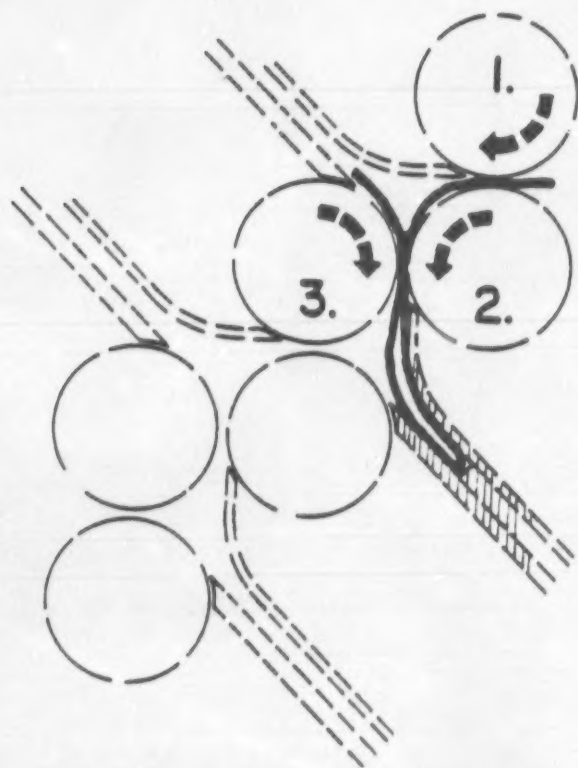

Figure 9-5. Step 3: The folded sheet is carried into fold plate number 2.
c. *Step 3.* If according to imposition requirements a second fold is to be made, using fold plate number 2, the once folded sheet is driven by the second and third rollers into the Number 2 fold plate, the deflector having been raised, until the folded edge of the sheet strikes the preset Number 2 fold plate gage (fig. 9-5).